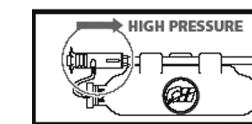

Figure 5
3. Pull back on black nozzle to ensure lance is in high pressure mode (Figure 5).